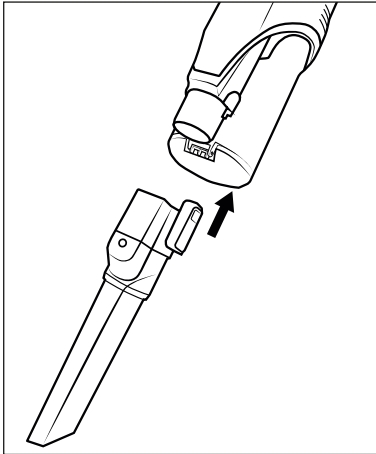

Fig. 14
- ◆ Push the accessory onto the suction pipe 24 or onto the suction opening of the appliance until it clicks into place (see Fig. 14). Make sure that the locking mechanism is in the correct position.